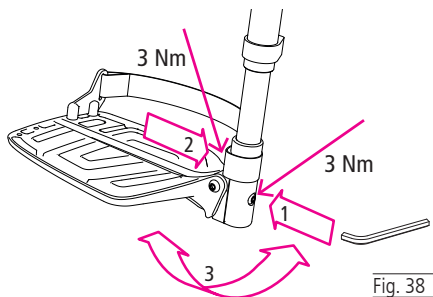

Fig. 38
1. Loosen the screws on the inside (1, Fig. 38) and outside (2, Fig. 38) a few turns. Now you can set the desired foot plate angle (3, Fig. 38).
2. Then tighten the screws (1, 2, Fig. 38) again (3 Nm).